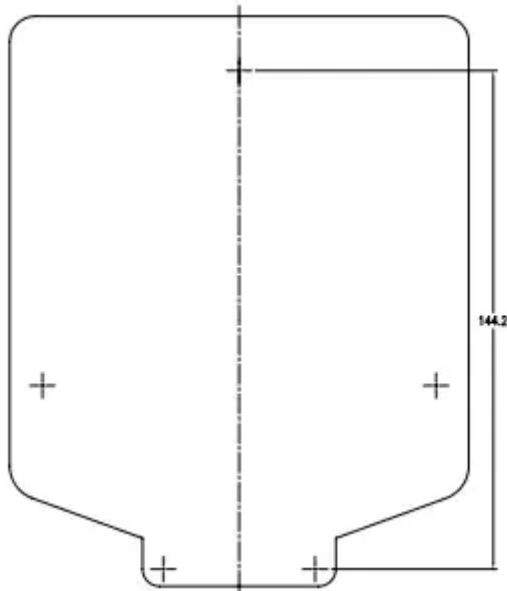

Figure 1: Use Mounting Template (included)
- Use the mounting template (included) to mark the mounting screw location on the wall. See figure 1.